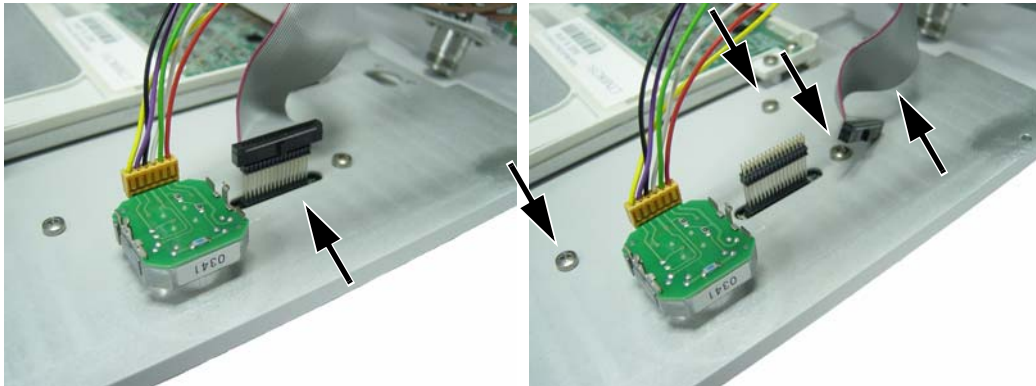

Figure 5-30. Keypad Mounting Screws and Cable Connector
2. The keypad bezel is held to the case with 3 screws on the inside (visible in Figure 5-30). The rotary knob is not connected to the keypad and need not be disturbed. Using a screwdriver, remove the screws while supporting the metal keypad bezel, and then carefully remove the bezel. This exposes the keypad rubber membrane.